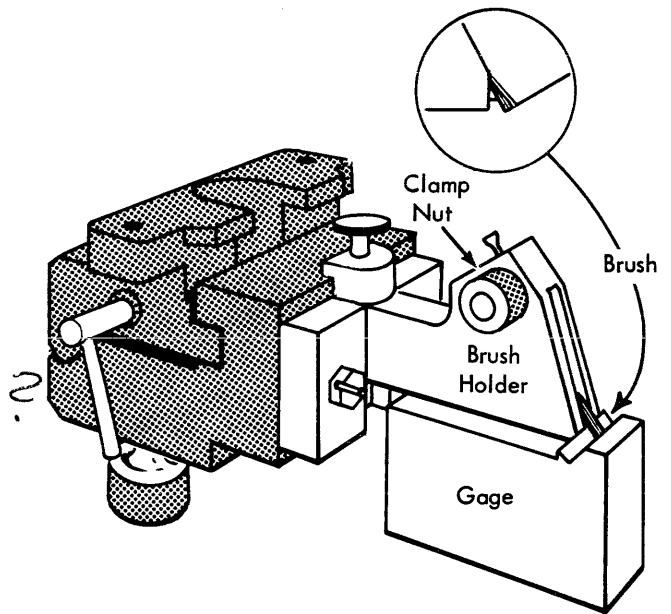

Figure 19. Sort-Brush Holder and Gage (83)
*Sort-Brush Gage:* The sort-brush gage sets the sort brush for correct projection. By turning the column-selector knob, raise the brush holder; unlock the locking lever; remove the holder from the machine. Place the sort-brush holder on the gage as shown in Figure 19 and adjust the sort brush.